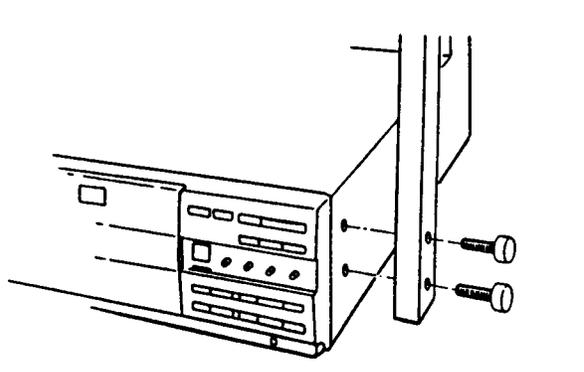

**Figure 5-3A Remove the two covers on the camera**
5. Remove the two covers on the new camera by unscrewing the six screws; make sure the Automatic Gain switch is OFF (Refer to Figure 5-3A for switch positions).